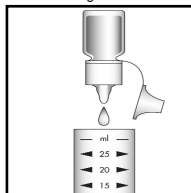

Figure 2
2. Add 10 drops of S-1010 Acidifier Solution (fig. 2). Stir to mix the contents of the cup.